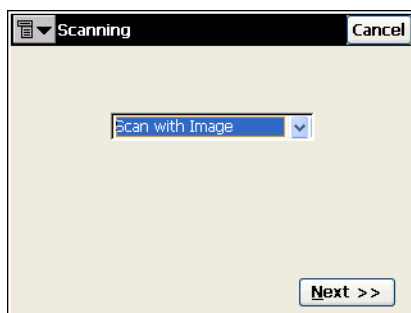

Figure 6-40. Scan with Image
*For Scan with Image (Figure 6-40).*